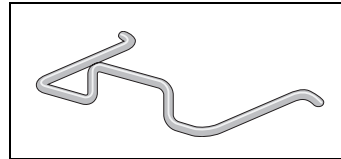

Figure 20. Power Cord Retaining Clip
1. Locate the power cord retaining clip, shown in Figure 20.